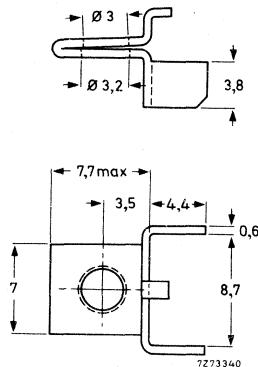
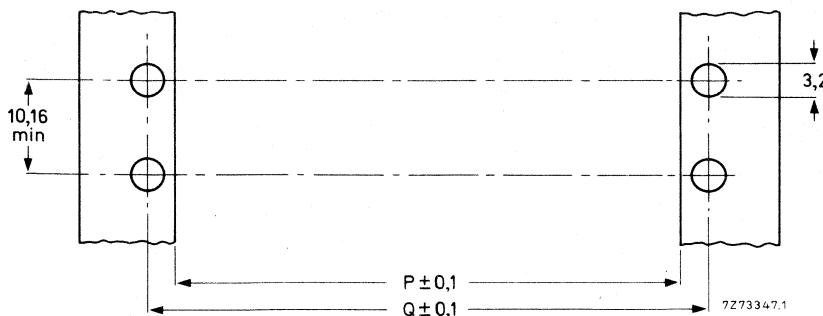

Fig. 3 Metal mounting bracket
Fig. 7 Piercing diagram for rail mounting; see Table 2 for dimensions P and Q.
- metal bracket for rail or panel mounting, catalogue number 4332 026 00750 (Figs 3 and 4);
In Figs 7 and 8, piercing diagrams are given for connectors with mounting brackets as shown in Figs 3 and 5.